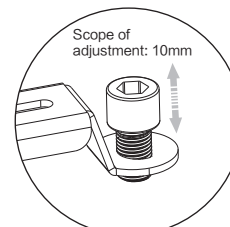

figure 15
4. Rotate the adjustable nuts (4-3) for adjusting the height of installation arms (4-2) if the installation holes are not at the same level as figure 15